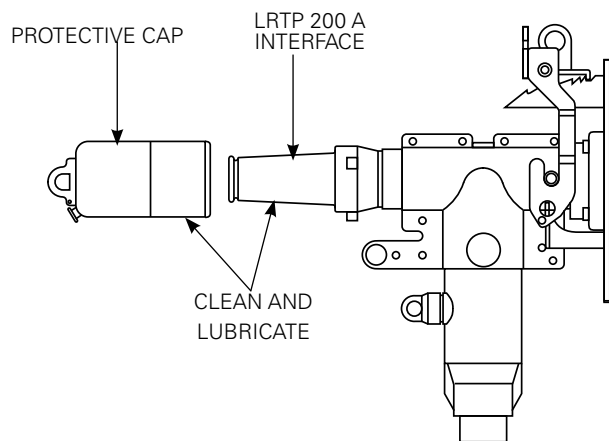

Figure 19. Line illustration of protective cap installation.
- To cap interface, follow installation instructions supplied with apparatus used. (Refer to Figure 19.)